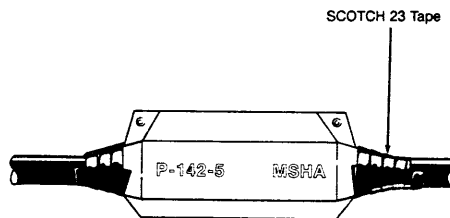

Figure 5
- Center mold over splice and tape into place by applying SCOTCH 23 Tape (provided in kit) over the mold ends and onto the cable (Figure 5).